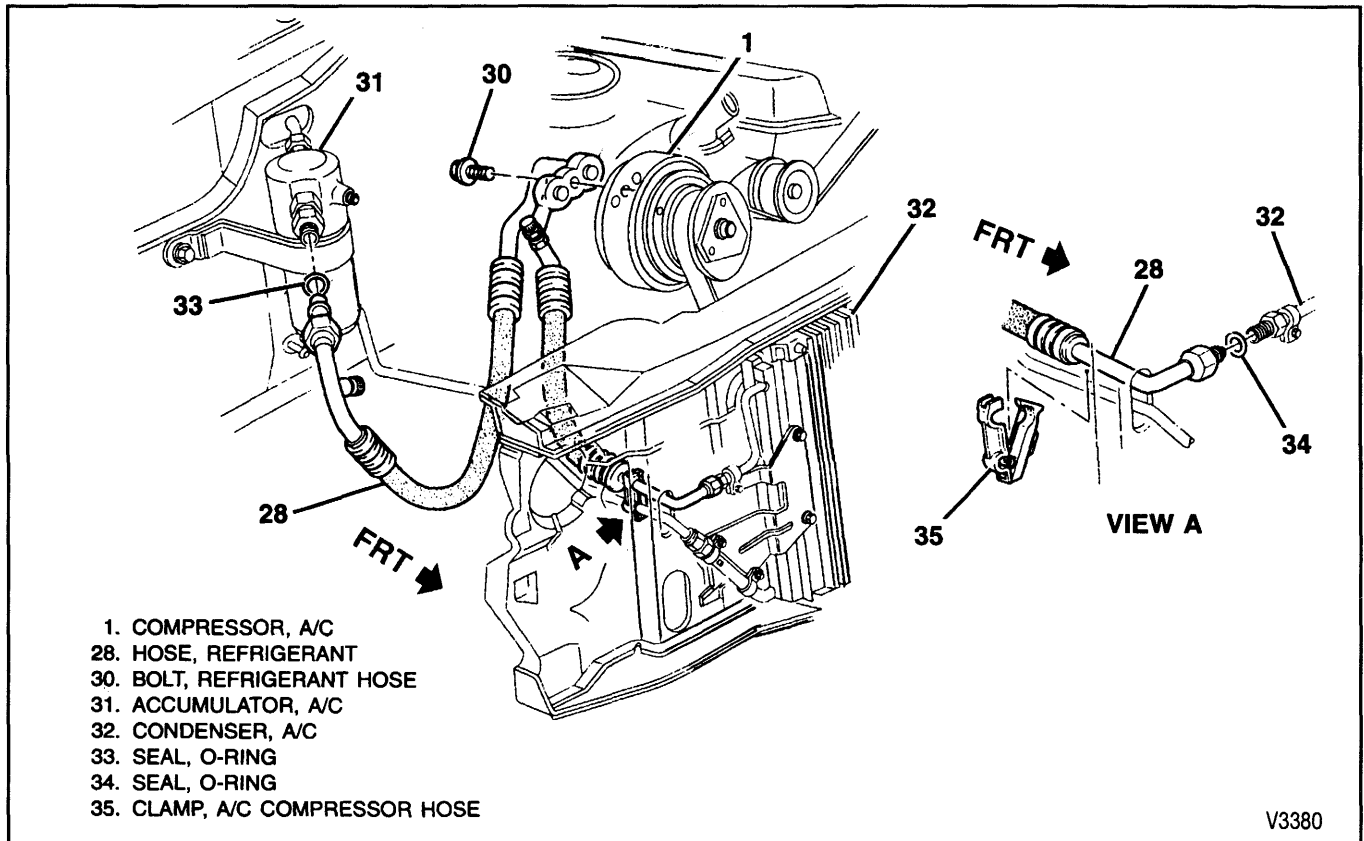

Figure 26—Compressor and Condenser Hose Assembly
- Pickup/Extended Cab Models (4.3L, 5.0L, 5.7L, and 7.4L Engines): refer to figure 26.
- All Models (6.5L Diesel Engines): refer to figure 26.
- Suburban/Crew Cab Models (7.4L Engines w/o Aux. Heater or A/C): refer to figure 26.
Remove or Disconnect (Figures 26, 27, and 28)
4. Bolt (30).
5. Hose assembly (28) from rear of the compressor (1).
7. Hose assembly (28) from accumulator (31).
8. O-ring seal (33).
9. Hose assembly (28) from condenser (32).
10. O-ring seal (34).
**Install or Connect (Figures 26, 27, and 28)**